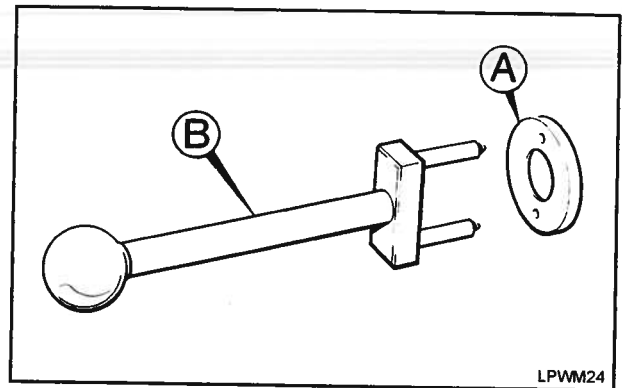

Figure 2.14.1 Valve Spring Compressor - 393155
5. Replace the valve spring (C) and spring carrier (D).
6. Fit the adaptor (A), see 'Figure 2.14.1', over the valve spring carrier with the two indentations facing outwards.
7. Push down on the tool lever until the collets (E) can be replaced in position with their tops slightly sunk in the valve spring carrier.